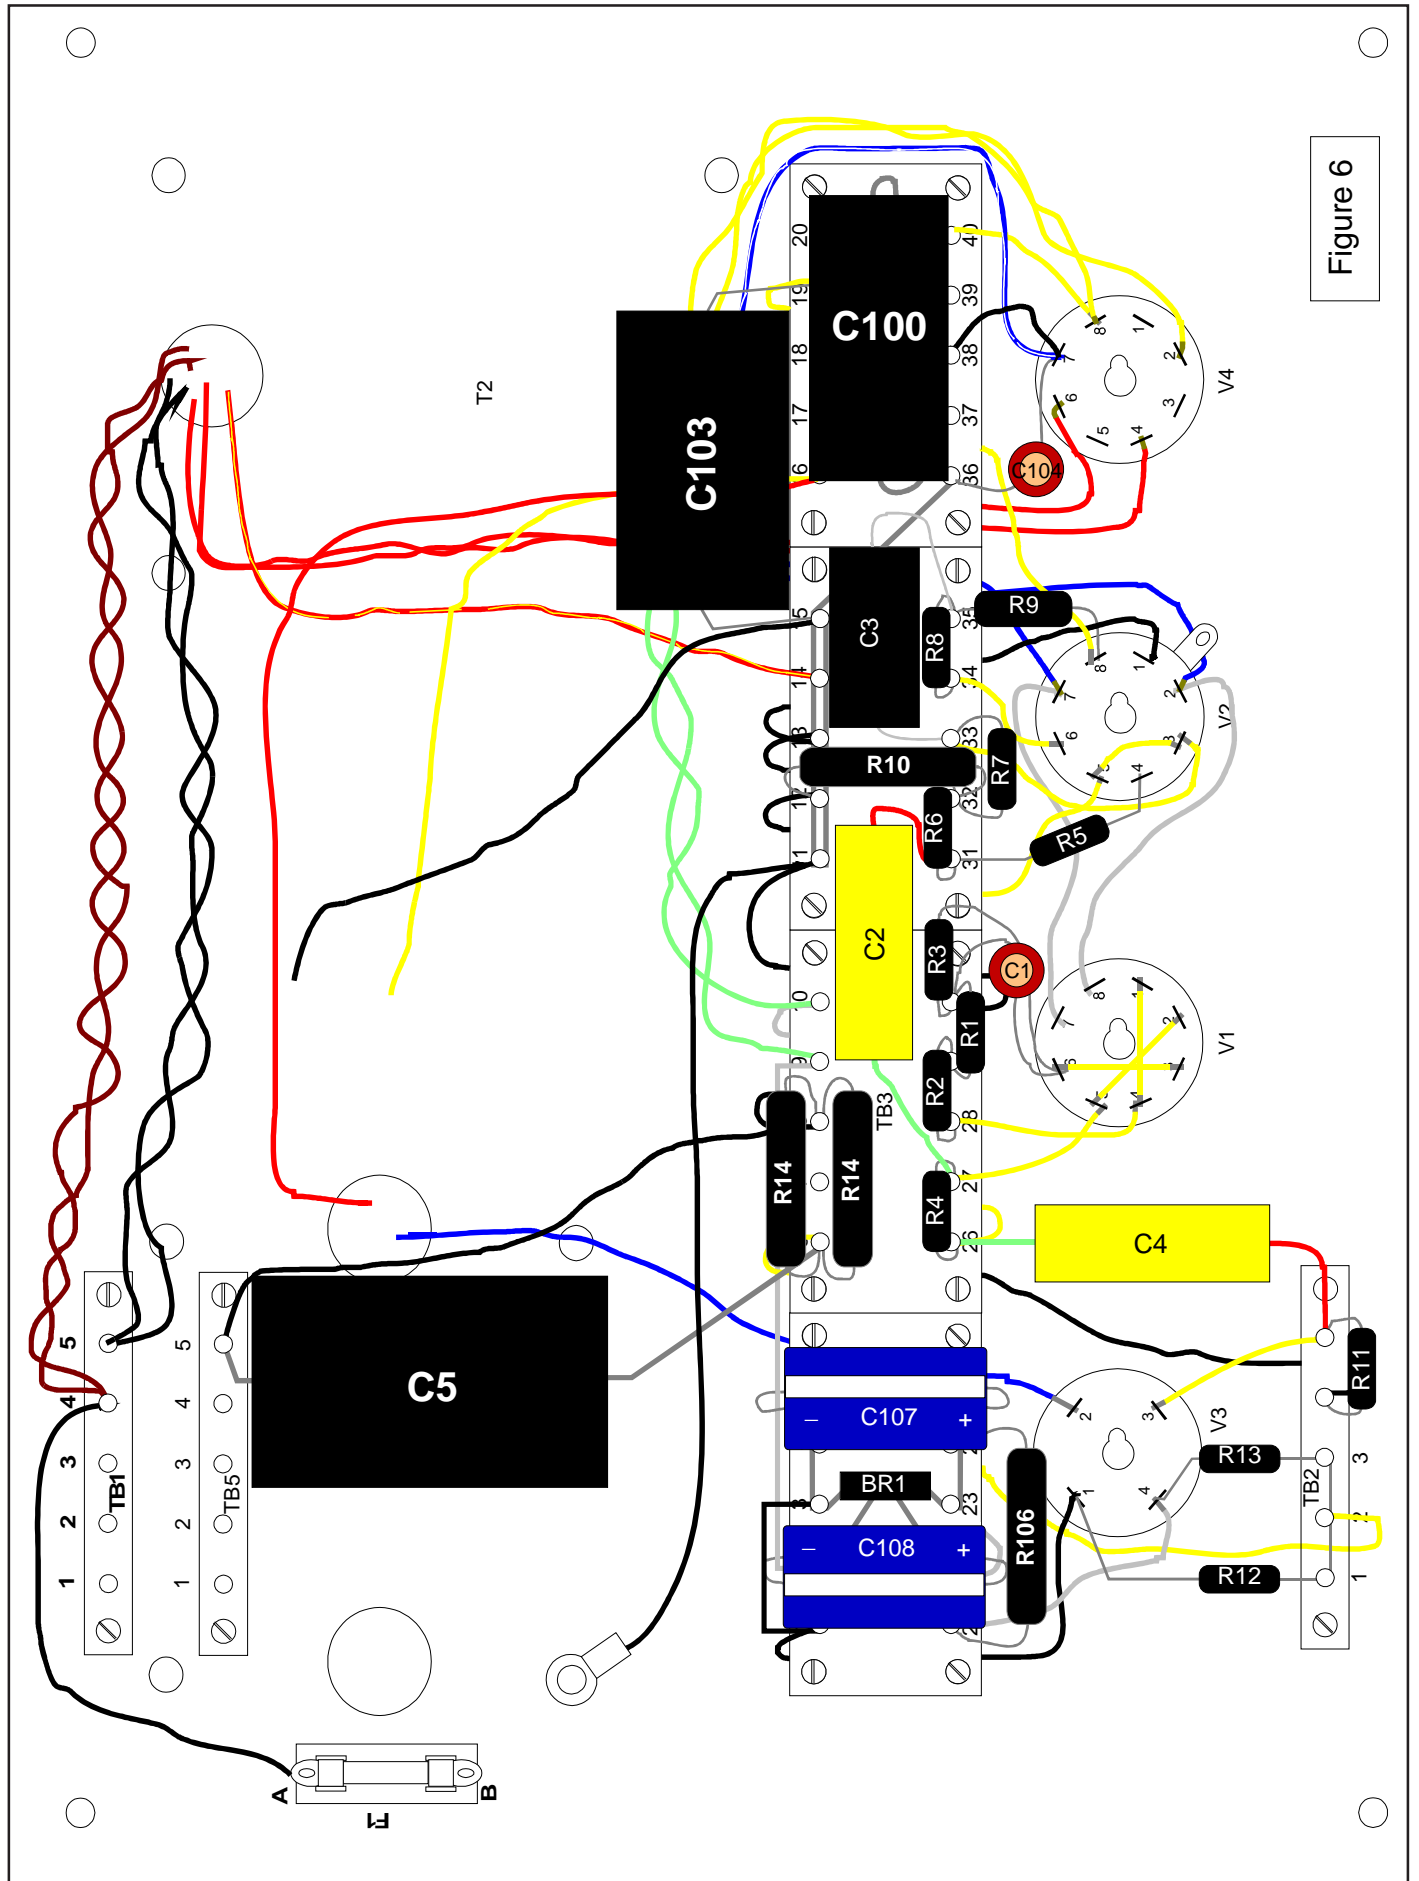

Figure 6
- 8) Now is another good time to inspect all connections and clean up any solder flux. Refer to figure 6 for the following assembly steps.
Position C3 as shown in figure 6 and solder one lead to TB3-33 and the other lead to TB3-35.
Position C1 as shown in figure 6 and solder the positive lead to V1-6 and the negative lead to TB3-30.
Position C2 as shown in figure 6 and solder one lead to TB3-27 and the other lead to TB3-31.
Mount capacitor C103 as shown in figure 6 and solder its leads between terminals TB3-19 and TB3-15.
You previously soldered a black wire to TB3-11 which has a ring terminal on its opposite end. Secure this ring terminal end to the transformer bolt of T1 using one of the brass nuts. Refer to figure 6.